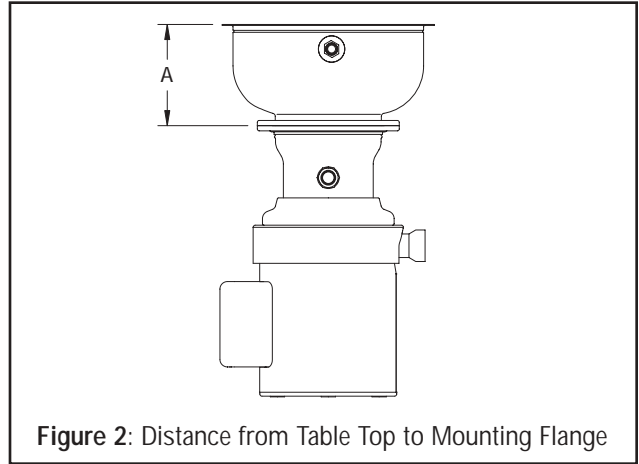

Figure 2: Distance from Table Top to Mounting Flange
- For safe operation, install the disposer in compliance with the minimum distance illustrated in Figure 2.
A= The minimum required distance from the table top or trough to the mounting flange is 6 inches for standard body disposers (as specified by UL) (see Figure 2).